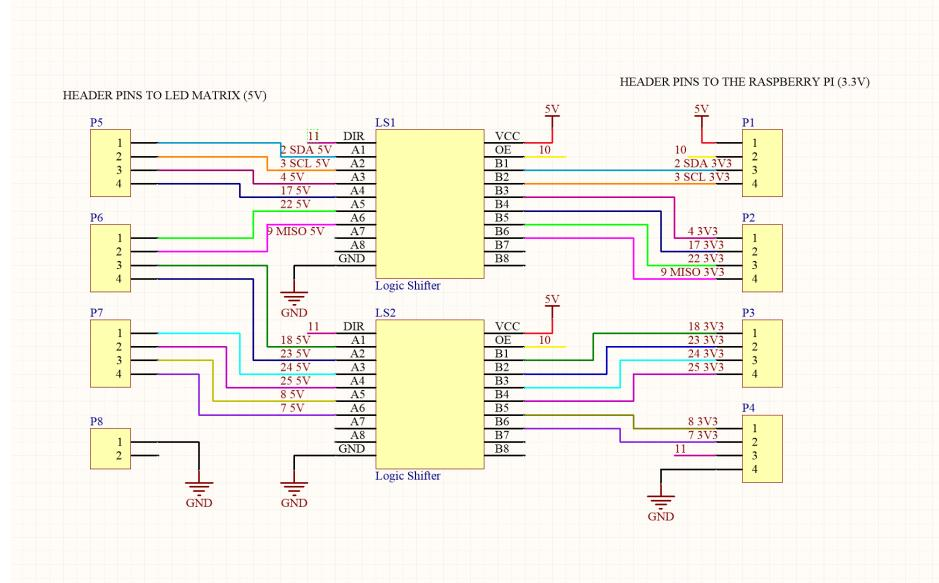
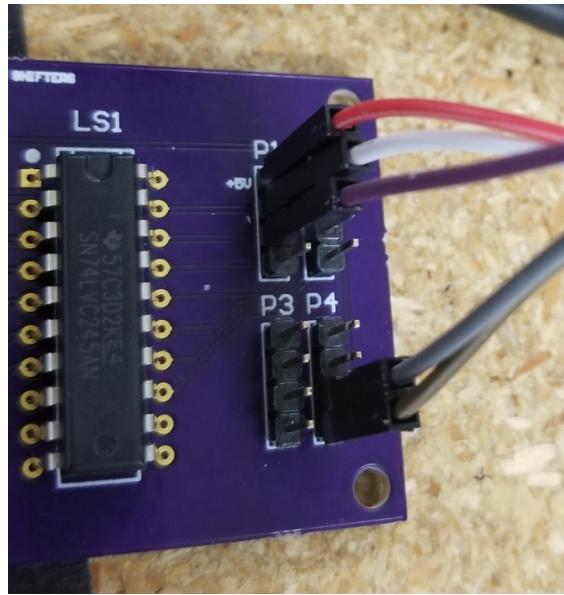

Figure 8: Logic Shifter schematic
Figure 11: Board Connections
In Figure 8 the wire labels correspond to the name of the GPIO pin the signal comes from on the raspberry pi. All pin numbers that lead to the Raspberry Pi represent **GPIO pin numbers, NOT physical pin numbers**. For instance, for header P2, pin 1 is labelled with "4 3V3". This should be connected to **GPIO pin 4** on the **Raspberry Pi (physical pin 7)**. The data sheet for the logic shifter IC chip can be found at:
2. Now, you will need to run connections to the board from the Raspberry Pi. Figure 8 shows which pins on the board are connected to which pin on the Raspberry Pi, with the exception of the purple wire, which will be using to test the signals and drive it from the 3.3V DC power pin on the Raspberry Pi. Figure 11 shows which of these we will need to start connecting the board to test.
6. Repeat this process for the rest of the pins, following along with the circuit diagram in Figure 8, making sure each channel of the shifter is working correctly.